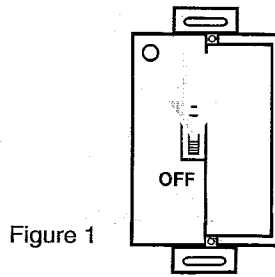

Figure 1
1. Make sure the slide switch on the Remote Receiver is at OFF position. See Figure 1.